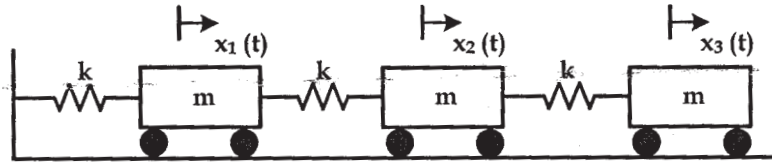

Fig. 1
- b) Find the natural frequencies and mode shapes for the system shown in Fig.1 [15]